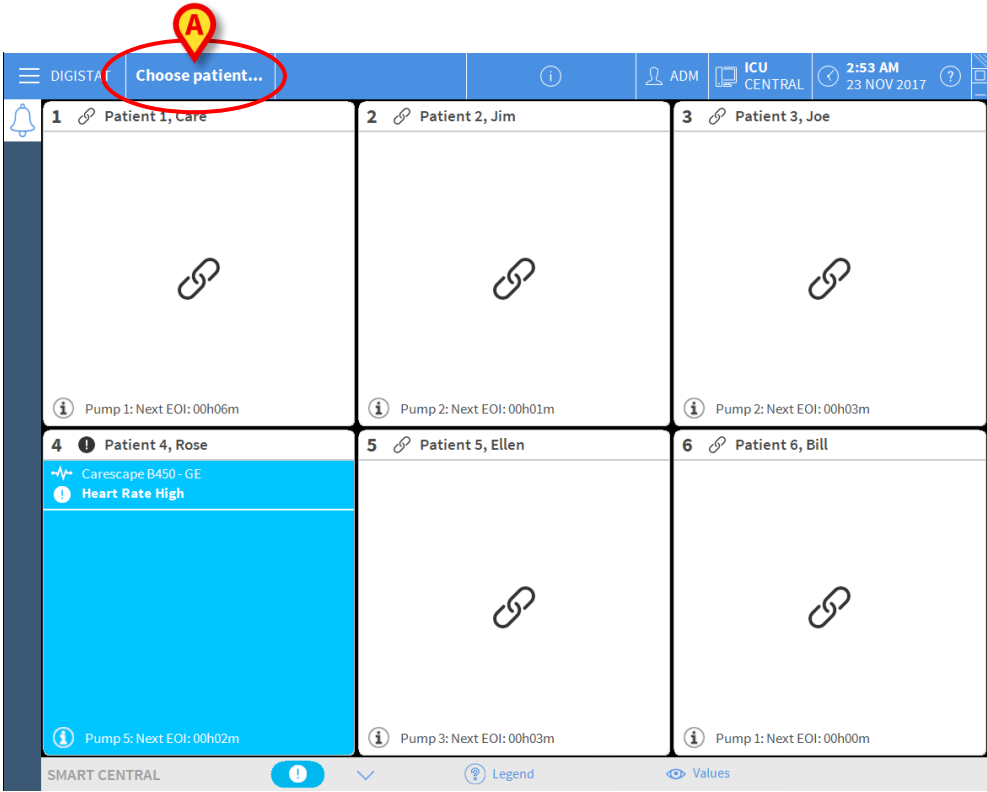
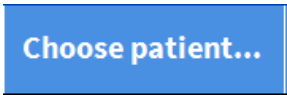

Fig 94
Fig 95
- Click the **Patient** button on Control Bar (Fig 94 **A** and Fig 95)
The “Anonymous Patient” screen is displayed by default (Fig 94).